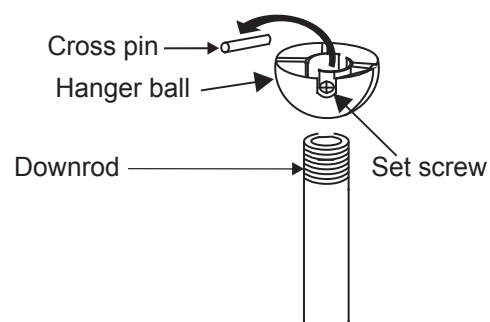

Fig. 8
Step 6. Remove the hanger ball from the downrod assembly by loosening the setscrew, removing the cross pin and turning the ball off the downrod. (Fig. 8)